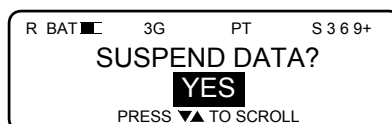

Figure 3-28. Data Transfer Abort Verification Screen
- c. If the data transfer is still in progress, the radio will prompt the user as to whether he wants to abort the current data traffic. See Figure 3-28.